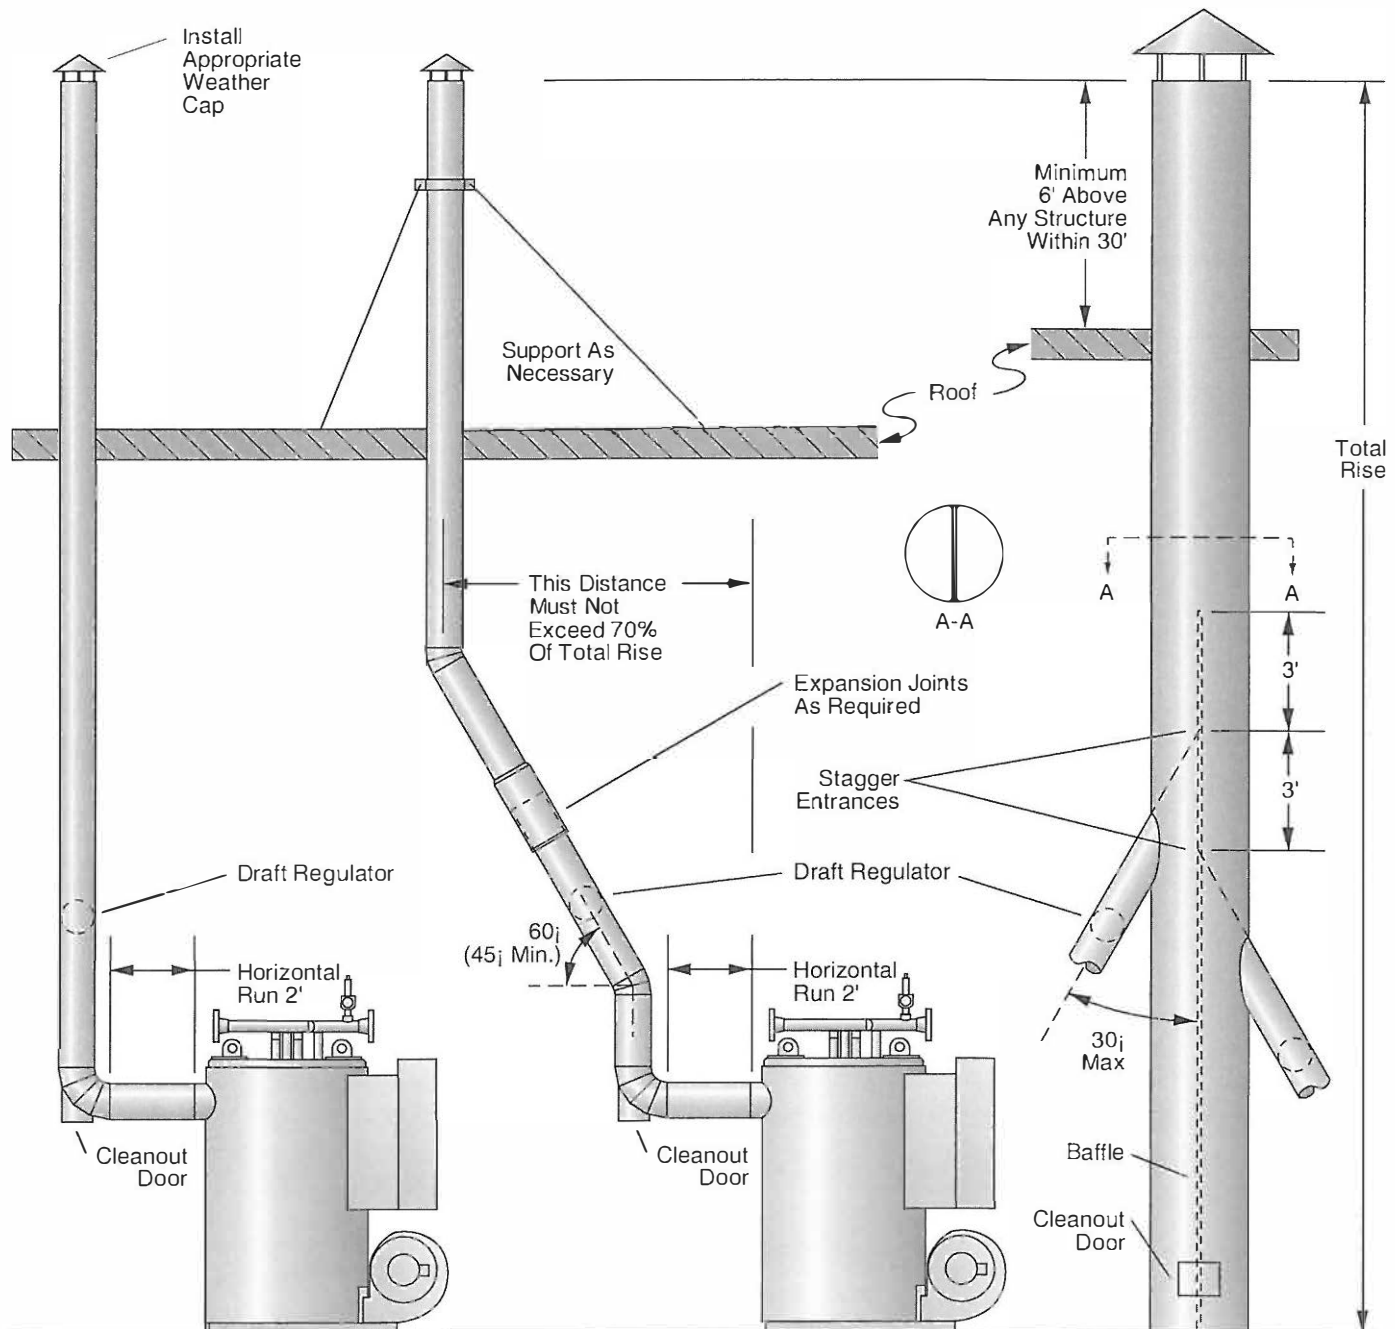

FIGURE 18 - TYPICAL STACK AND FLUE INSTALLATION
Adhere to the following for stack and flue installation (see Figure 18):
4. Ensure the run in the total distance of stack ducting, as measured in a straight line from the outlet of the heater to the outlet of the stack, does not exceed 70% of the rise. With the exception of the duct run previously described, horizontal sections of ducting must be avoided and should not exceed 4 feet (1.2 m) total. See Figure 18.